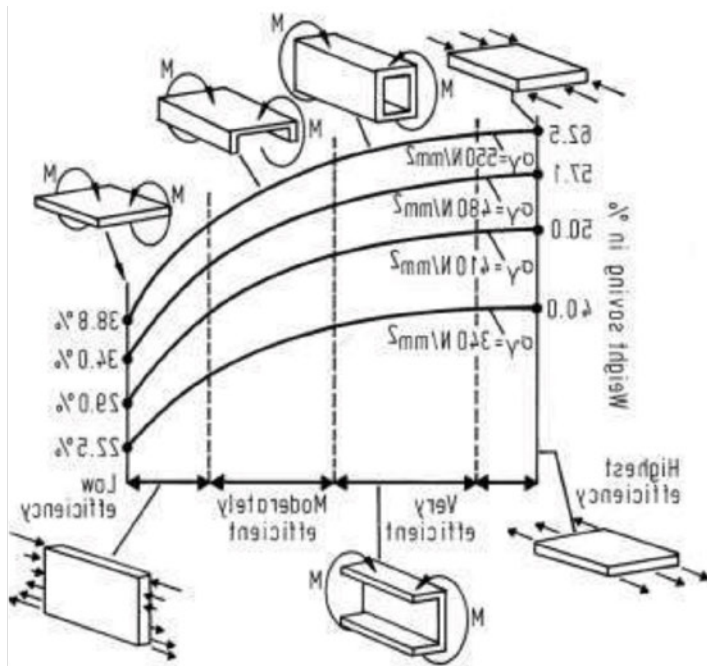

Figure 3. Weight saving potential by applying high strength steels for various loading condition (7)
In recent decades one of the fundamental goals is to increase the productivity of engineering structures, which leads to their better utilization. Parallel with productivity improvement the weight of structures significantly decreases. As an example of the automotive industry, Figure 3 shows the weight saving potential by replacing $\sigma_Y = 200$ MPa steel with high strength steels (micro-alloyed with Nb and Mo) for various loading conditions (7). This overall tendency on one hand increases the requirements against NDT, and on the other hand it defines new NDT tasks (appearance of novel materials, e.g. light metal alloys, composites, ceramics).